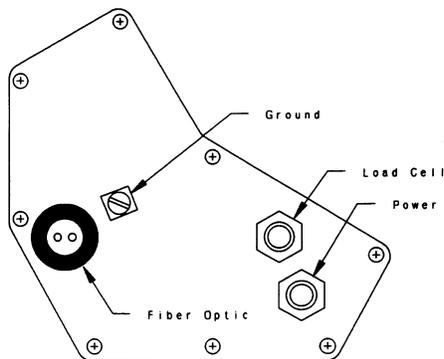

Figure 2-2 Desk Enclosure Left End Cap View
2. Insert the cable into the enclosure through the load cell grip bushing and grommet. For desk enclosures, the bushing and grommet are located on the front bottom of the left end cap. For wall mount enclosures, the bushing and grommet are located on the bottom of the enclosure. Refer to Figures 2-2 and 2-3.
1. Insert the indicator supply cable through the power grip clamp and grommet until the outside jacket is flush with the inside edge of the grip bushing. For desk enclosures, the clamp and grommet are located on the middle front of the left end cap. For wall mount enclosures, the clamp and grommet are located on the bottom left of the enclosure. Refer to Figures 2-2 and 2-3.